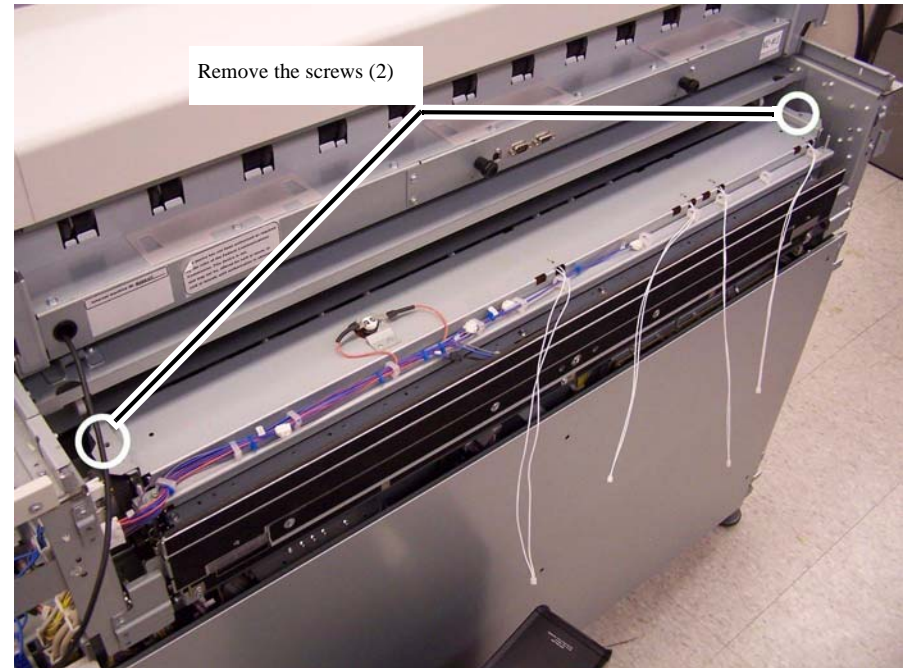

Figure 3
c. Remove the screws (2) (Figure 3).